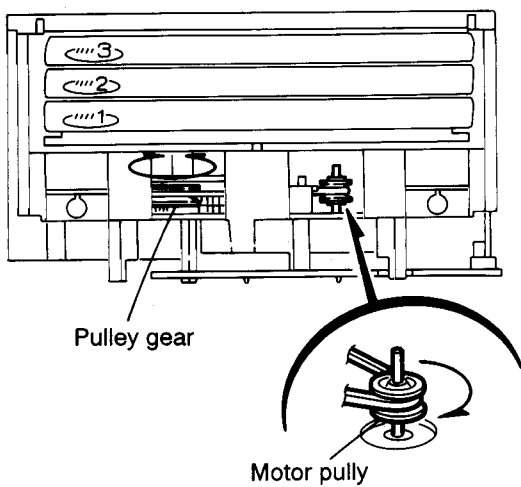

Fig. 2-14
- [Caution]** In case the driver unit elevator is not at the above position, set the elevator to the position as shown in Fig. 2-13a by manually turning the pulley gear as shown in Fig. 2-14.